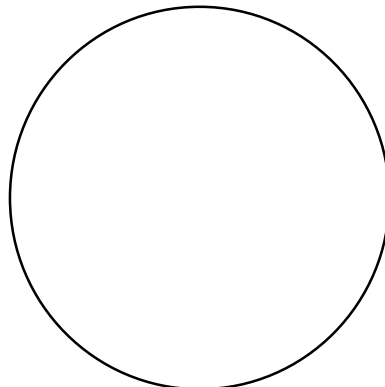

Fig.9
31. Indicate on the circle at figure 9 :-